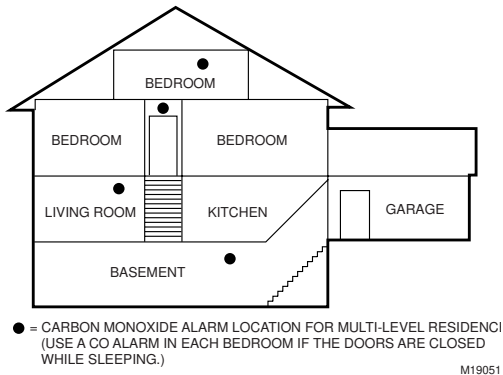

Fig. 2. Multi-level residence CO alarm locations.
- See Fig. 2 for multi-level residence CO alarm locations.